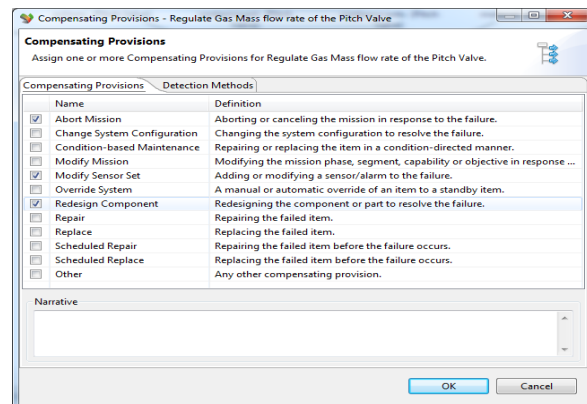

Figure B14: MADE Compensating Provisions & Detections Interface
- 7) Add *Compensating Provisions* and *Detection Methods* by right-clicking on each failure mode of interest in the *failure diagrams* and either selecting either the compensation or detection option to open the *Compensating Provisions & Detections Interface* window. When that window (Figure B14) is open, the modeler should select from the list or note a custom *narrative* for compensation and detection.